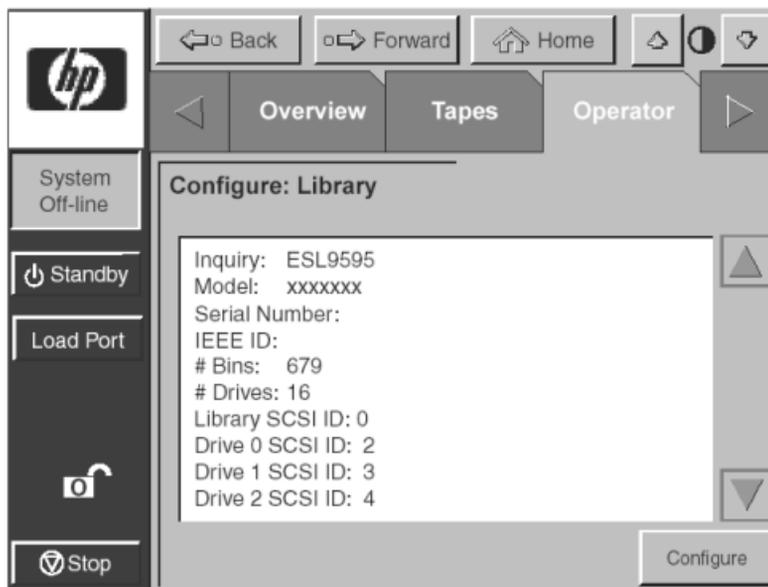

Figure 30: Configure: library screen (ESL9595 shown)
1. In the **Operator** screen, press the **Configure Library** button. The control panel displays the **Configure: Library** screen (see Figure 30).